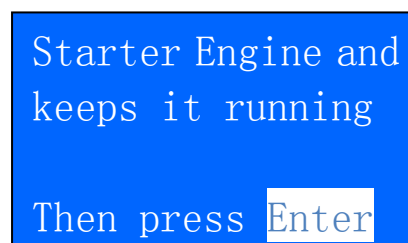

Figure 52
- Press  key to continue and the display will show: (Fig.52)